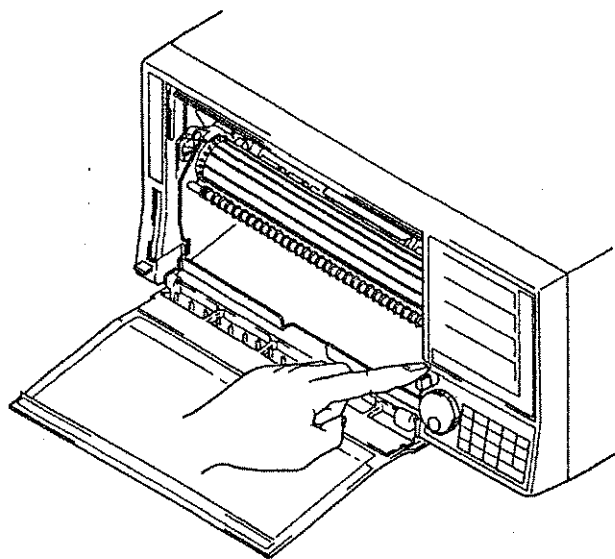

Figure 6.1
- (1) Open the front panel **(A)** and push the right-hand stoppers **(B)** on the chart tray to lift the unit. (Figure. 6.1)
- (2) Open the front panel and remove the chart tray from the recorder. (See Figures. 6.1 thru 6.3)